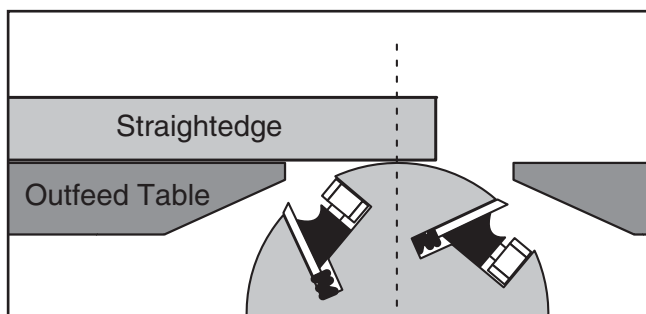

Figure 65. Adjusting outfeed table even with cutterhead body (knife-style cutterhead shown).
1. Place the straightedge on the outfeed table so it hangs over the cutterhead, and lower the outfeed table until the straightedge just touches the cutterhead body, as shown in **Figure 65**.